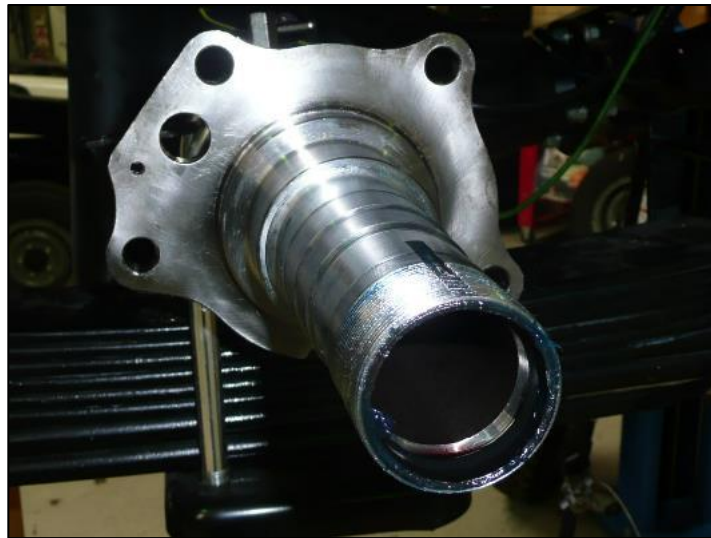

Fig. 16
2. Clean the axle flange and spindle to remove any grease, dirt, and gasket residue. If the flange is damaged or corroded, it must be cleaned thoroughly with abrasive paper. See Fig. 16